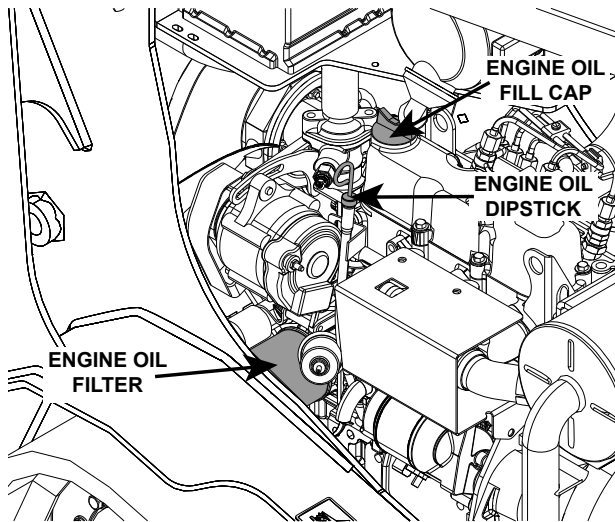

Figure 6-12. Engine Oil Filter/Fill
4. Check the oil and add additional oil as needed. See Figure 6-12.